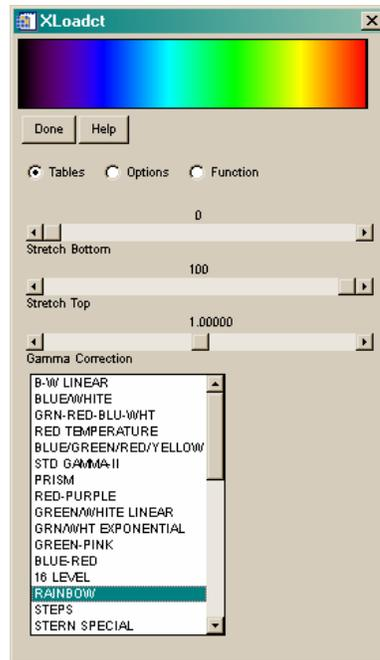

Figure 25: Color-map dialog window
9. Many colormaps are available, and each can be customized in various ways. Click the left mouse button directly on the color bar to bring up a dialog window with an extensive list of colormaps and tools for their individual customization (see Figure 25). For example, select the “Rainbow” colormap from the list, then press the **Done** button. The new colormap will now appear on the colorbar in the **Overlay** tab of the **Rendering Control** window. Press the **Apply** button to display the new colormap on the surface models.